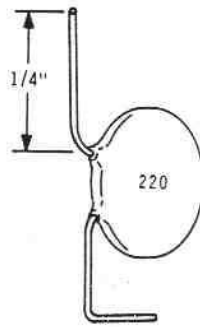

Figure 3-5
- () Refer to Figure 3-5 and cut the leads of a 220 pF capacitor to 1/4". Form the leads as shown.